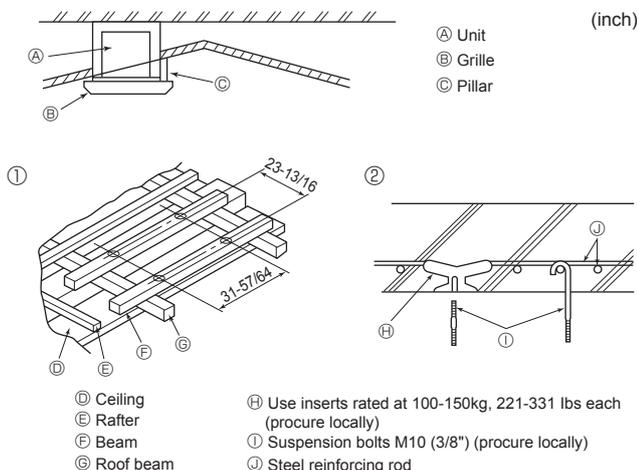

Fig. 2-4
- (G) 14-ø2.8 mm, ø1/8 inch burring hole
- (H) ø150 mm, ø5-29/32 inch cut out hole
- (I) ø175 mm, ø6-7/8 burring hole pitch
- (J) Fresh air intake hole diagram
- (K) 3-ø2.8 mm, ø1/8 inch burring hole
- (L) ø125 mm, ø4-29/32 inch burring hole pitch
- (M) ø100 mm, ø3-15/16 inch cut out hole
- (N) Ceiling
- (O) Detailed figure of removing the insulator
- (P) Insulator
2.4. Suspension structure (Give site of suspension strong structure) (Fig. 2-4)